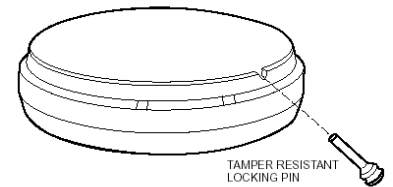

Figure 6
9.2 A mounting plate is provided on the back of the alarm. Remove the mounting plate from the back of the alarm by holding the mounting plate and twisting the alarm in the direction indicated by the "OFF" arrow on the alarm cover. (Figure 6)
9.7 To make your carbon monoxide alarm tamper resistant, a locking pin has been provided in the bag with the screws and anchors. Using this pin will deter children and others from removing the alarm from the mounting plate. To use the pin insert it into the hole in the side of the alarm after the alarm has been installed on the mounting plate (see figure 6). To remove the alarm, use long nose pliers pull the pin out of the hole; it is now possible to remove the alarm from the mounting plate. **Test alarm immediately following installation** and weekly for proper operation by pushing the test button until a short beep is heard (approximately three seconds). Release the button. The alarm will then test itself